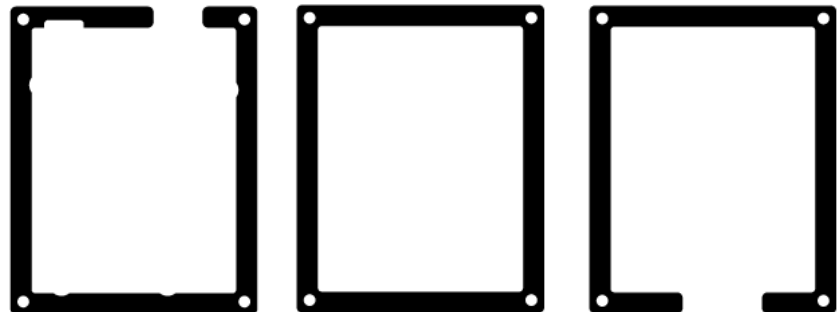

Figure 2: USB cutout layer (left), solid outline layer (centre) and terminal cutout layer (right).
- 5) Start stacking layers (Figure 2): First, the five layers with cutout for USB. Then the two layers with solid outlines and finally, the three layers with cutout for terminal.